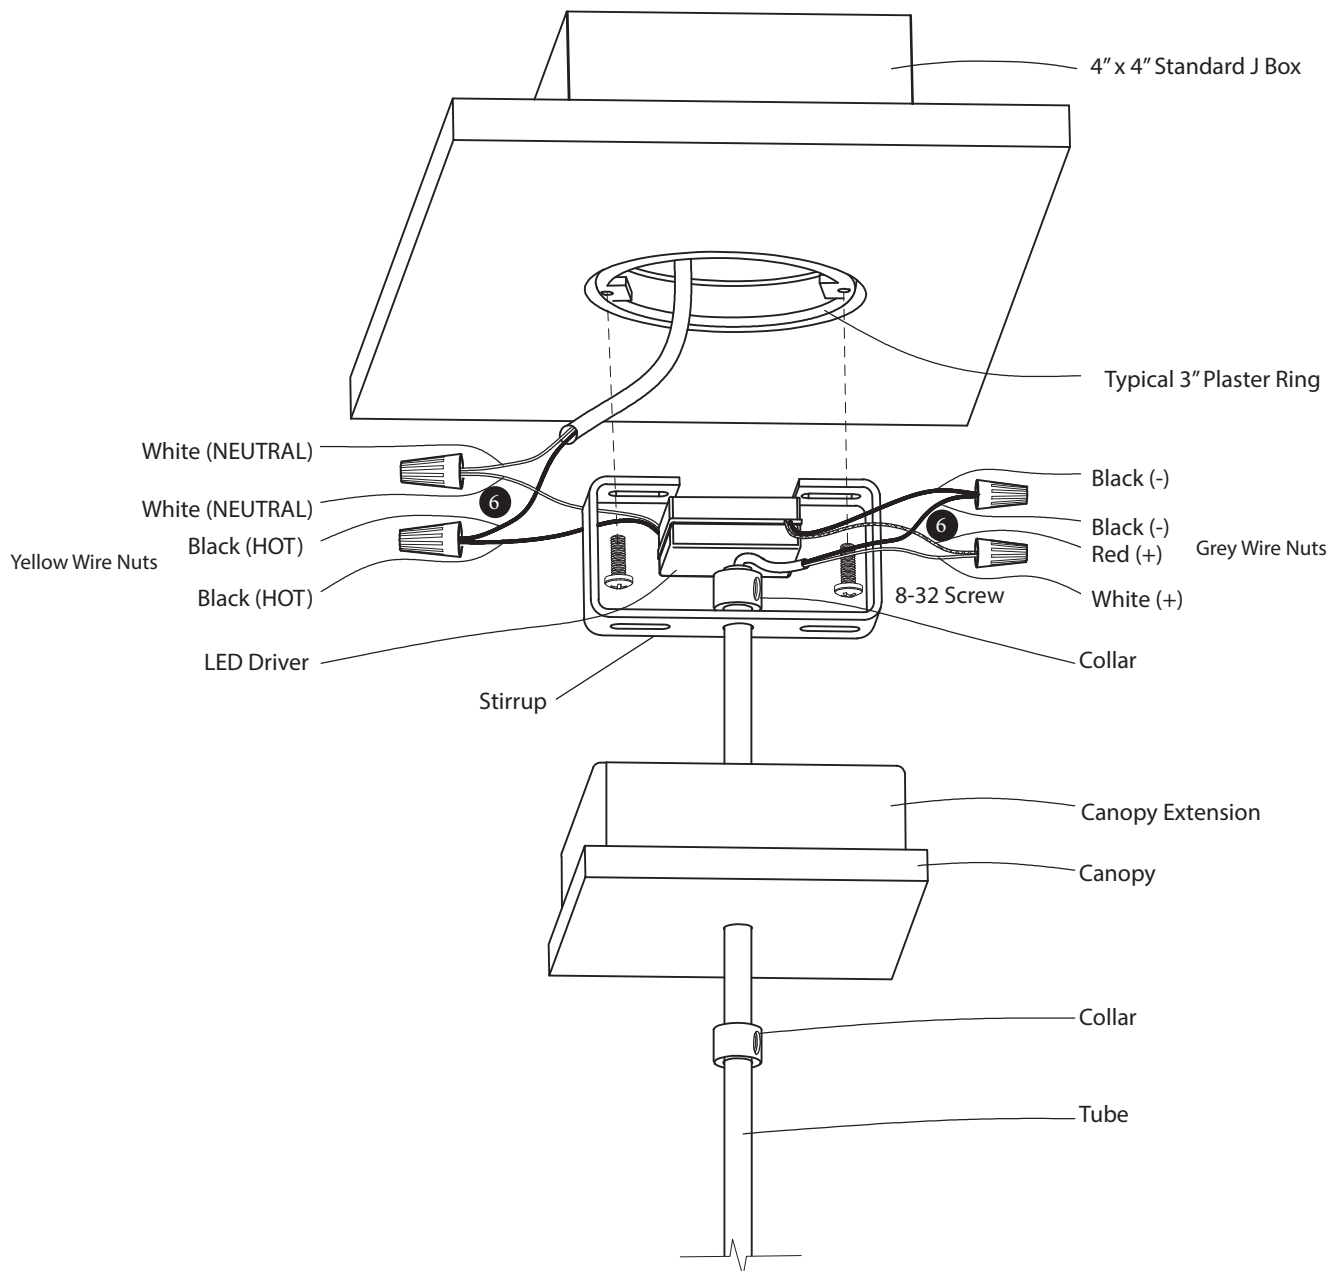

Figure 2
- 6 Make electrical connections as shown in figure 2 using the supplied wire nuts.